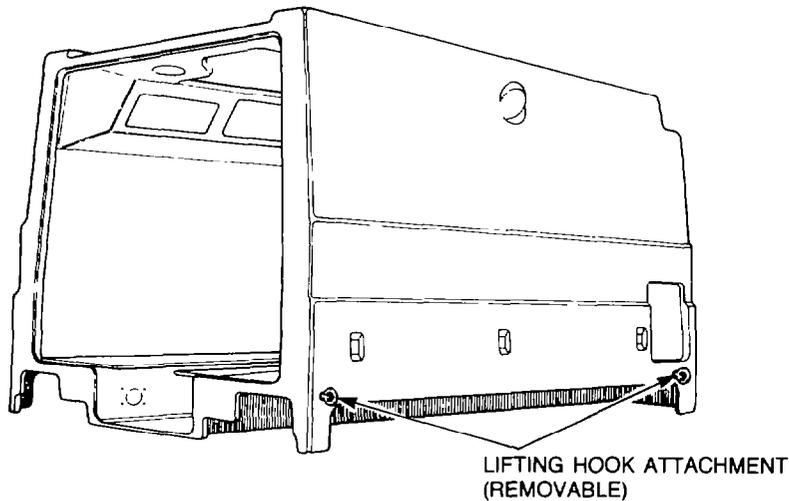

Figure 8 — Module Lifting Points — Location
- h. Install the four lifting eyes in the four locations provided on the module (see Fig. 8), then attach special tool 610010 lifting beam to suitable overhead lifting equipment and attach the four slings with the 'D' shackles to the lifting eyes.
- a. Attach the four lifting slings to the lifting hook attachments on the module frame (see Fig. 8), then connect the lifting beam to suitable overhead lifting equipment.